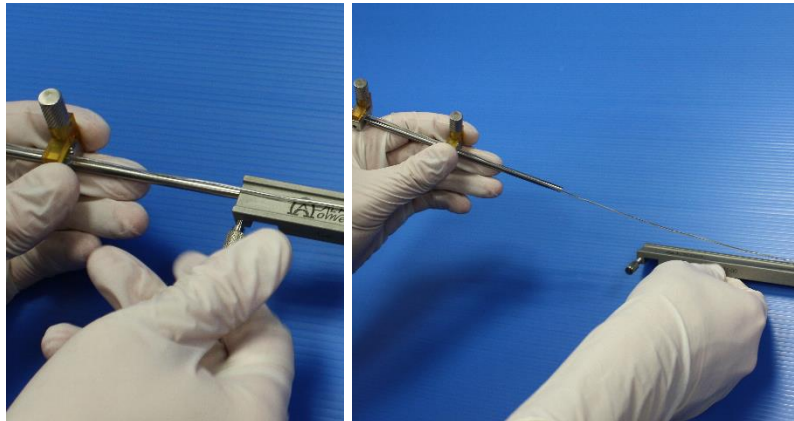

Figure 114: Removing the DBS Holder from the Ruler
9. Remove the DBS holder from the ruler (Figure 114).